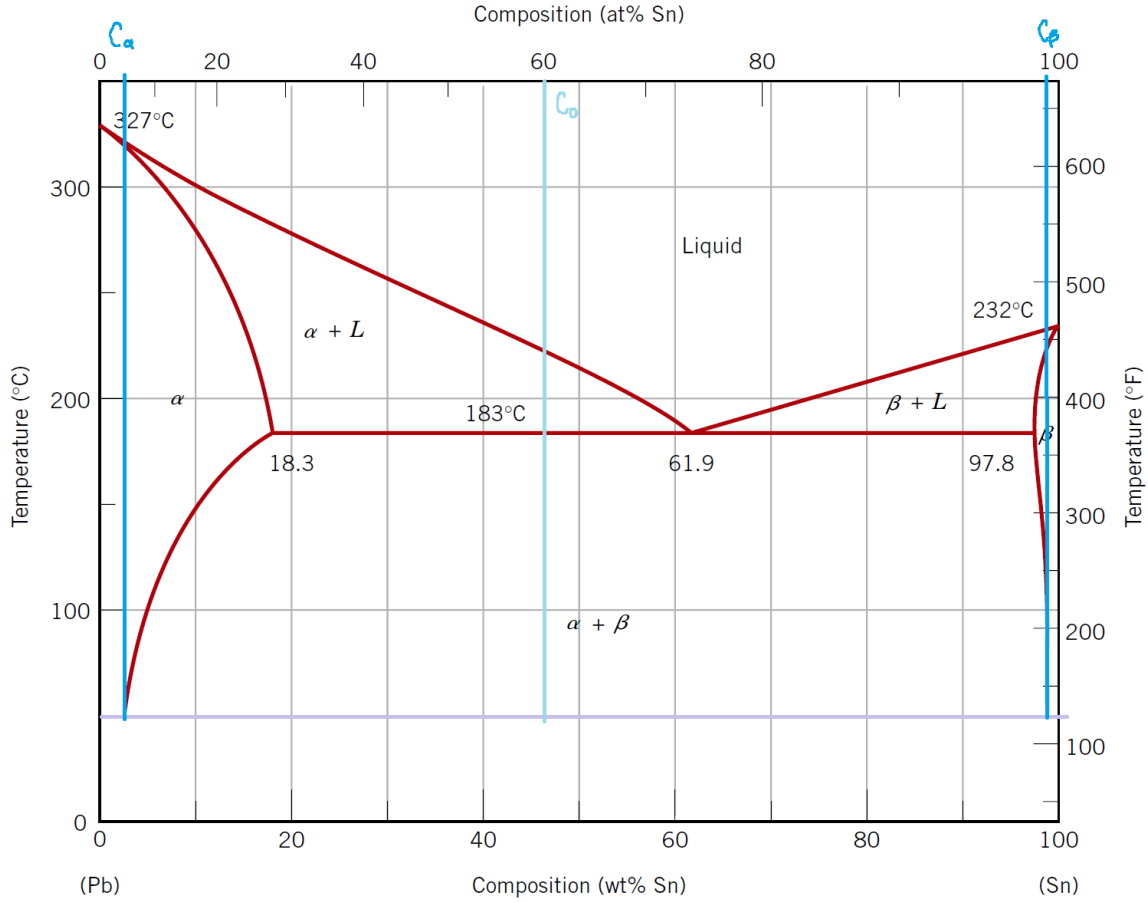

Figure 1: Phase diagram for lead-tin
The phase diagram for an alloy of Pb and Sn is shown in figure 1. The temperature and composition are located in the diagram, the composition C_0 corresponds to a 60% of Sn and 40% of Pb. From the figure, it can be seen that for a temperature of 50°C there is presence of two phases, α and β . From the isothermal of the temperature it is possible to obtain the values of the compositions for each phase by intersecting the isothermal line with the boundaries of the phase diagram, which gives the following results:
Using the values of the compositions obtained from the phase diagram in figure 1, the fractions for α and β phases are calculated using equations (1) and (2):